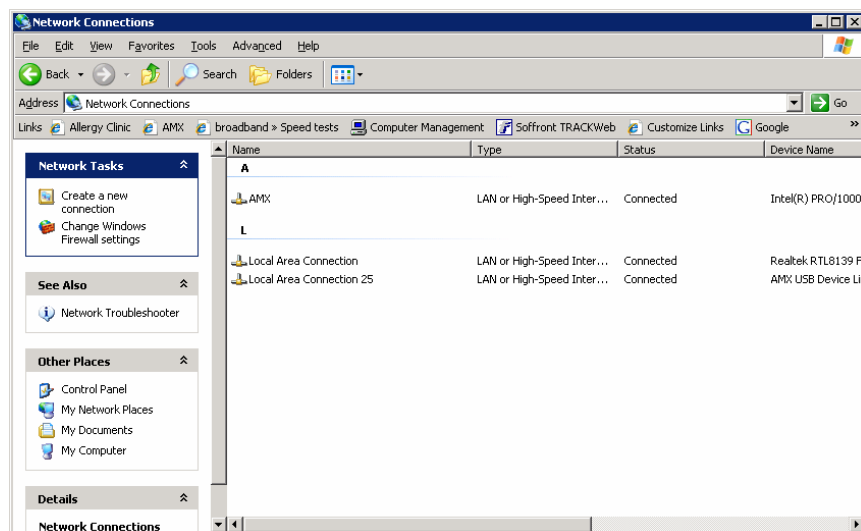

FIG. 70 Network Connections window
2. In the *Control Panel* window, click on the **Network Connections** icon to open the Network Connections window (FIG. 70)